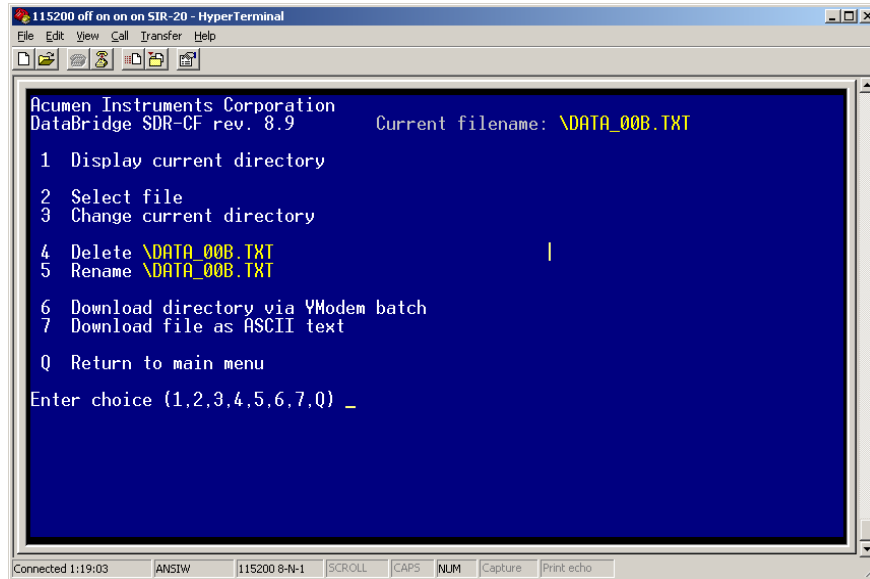

Figure 3: File System Functions menu.
- 5** You can create the Current filename format using menu item 1, Change target file.
- 6** Set menu item 2, Toggle overwrite-oldest mode, to OFF.
- 7** Set menu item 3, Toggle append mode” to OFF.
- 12** From the Main menu, press 7 to view the File System Functions menu (Figure 3). Again, ensure the settings agree and press Q when done. Keep in mind that Current filename should conform to your file naming convention.
- 15** From the Main menu, press 7 to view the File System Functions menu (Figure 3). Again, ensure the settings agree and press Q when done. Keep in mind that Current filename should conform to your file naming convention.